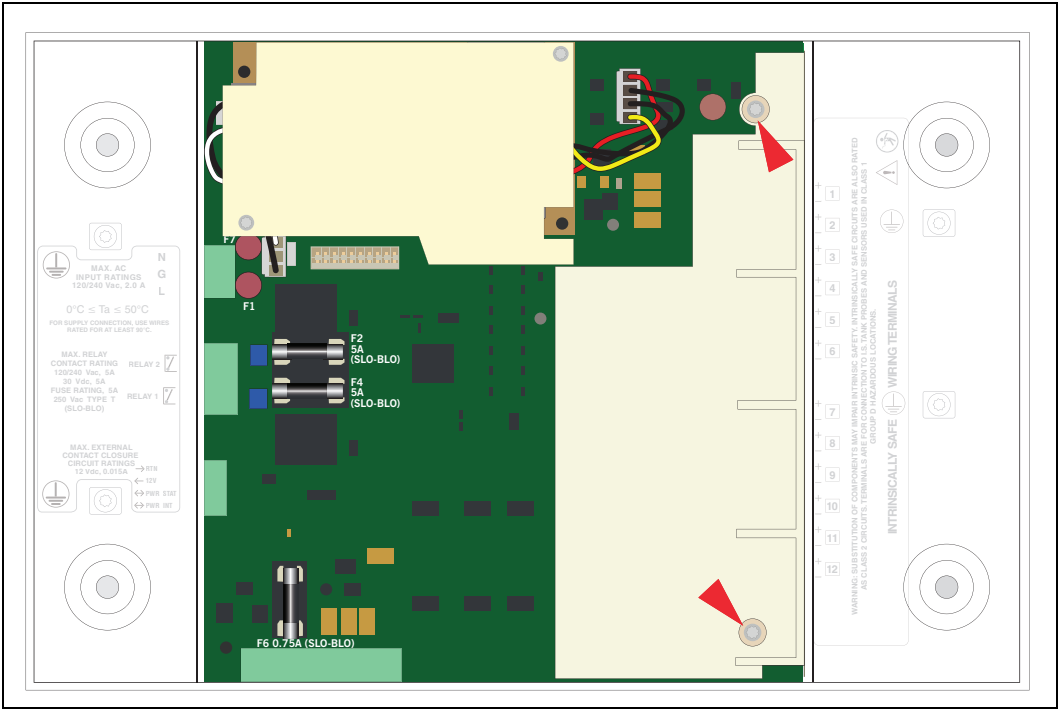

Figure 10. Remove Two T15 Screws Securing I.S. Cover
7. Remove the two T15 #6 x 0.375 screws securing the I.S. cover and right side of the USIOM board to the console chassis (see Figure 10). Set the plastic I.S. cover, the two T15 screws holding the cover aside.